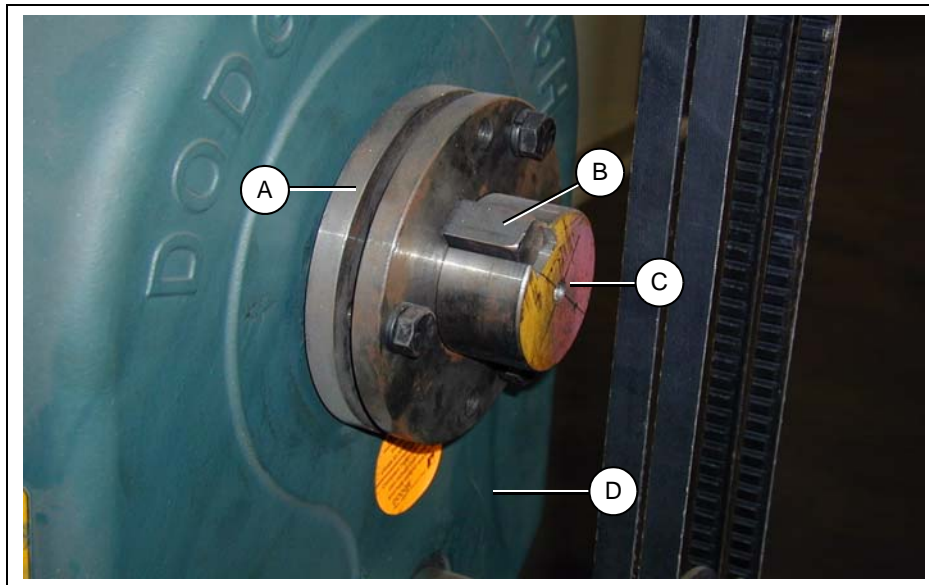

Figure 5C
1. To aid in the installation of the reducer onto the shaft, remove any protective coating film from the shaft. (See Figure 5C.)